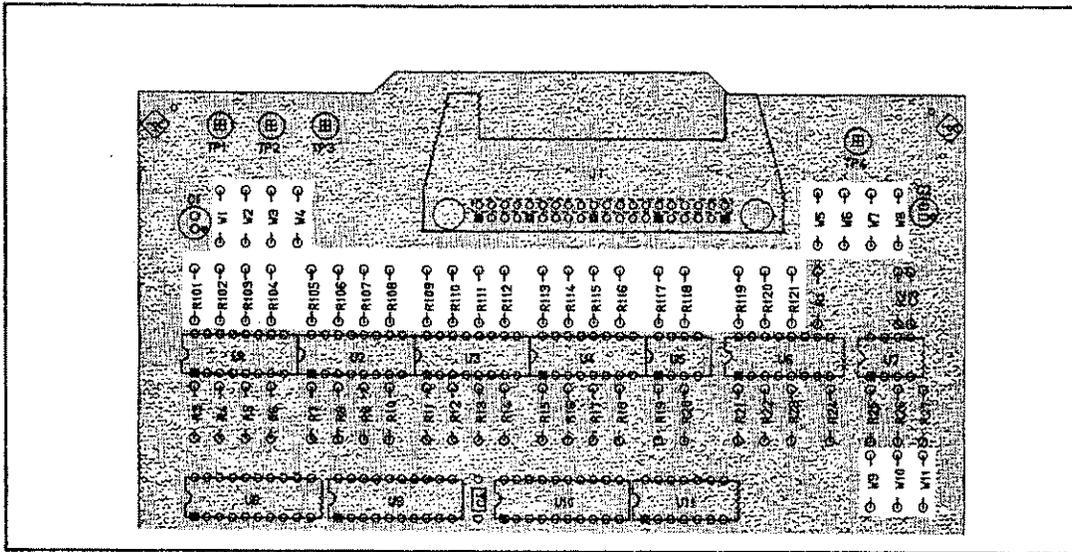

Figure 6-10. Jumper Settings
8. Set the jumpers on the handler interface board the same settings as when the board is shipped from the factory referring to Figure 6-10.